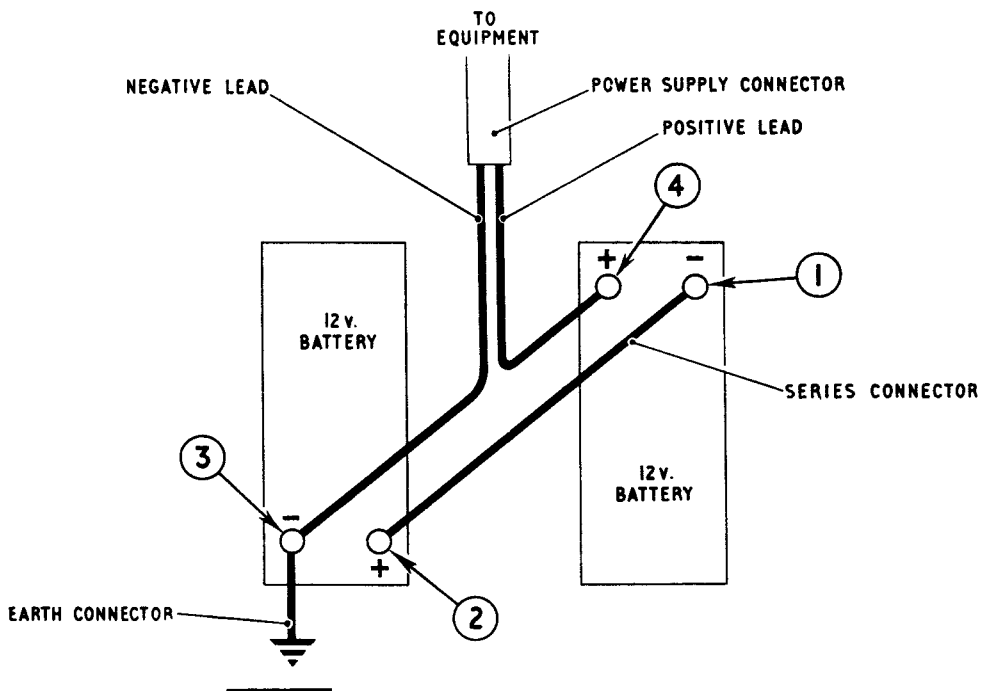

FIG. 17 METHOD OF FITTING CONNECTORS TO TWO BATTERIES
- (a) First fit the series connector between the negative terminal on one battery (1 in fig. 17) and the positive terminal on the other (2 in fig. 17). The terminals to which the series connector is fitted must not now be used for any other connections.
- (b) Fit the free end of the 3-ft. earth connector to the vacant negative terminal (3 in fig. 17).
- (c) Then fit the negative lead of the power supply connector to the same battery terminal as the earth connector (3 in fig. 17).
- (d) Finally fit the positive lead of the power supply connector to the vacant positive terminal (4 in fig. 17).